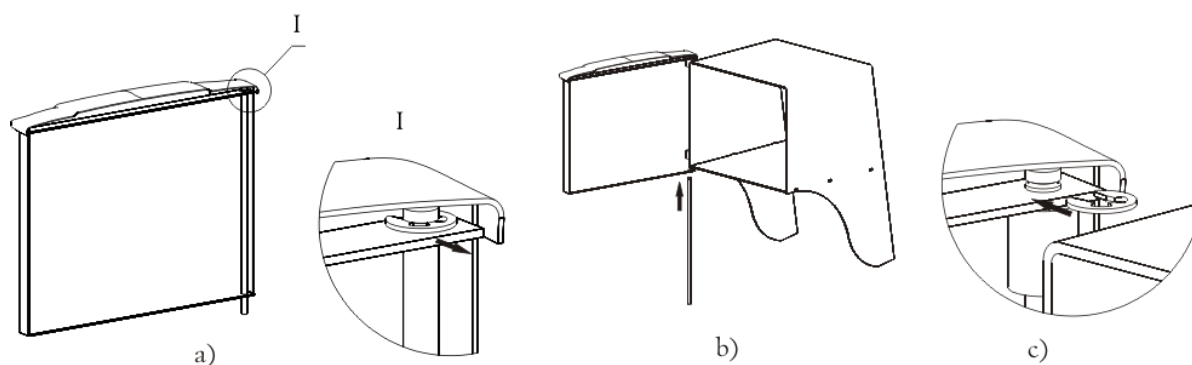

Figure 8. Assembly of the door under installation of the stove «Tunguska»
1. Remove a stop quick-detachable collar, then remove the axis out of the door, see figure 8.a;
3. Set an axis from bottom to top through holes. Place a groove under a collar in the top part of an axis, see figure 8.b;
4. Install a stop quick-detachable collar in a groove on an axis, see figure 8.c.